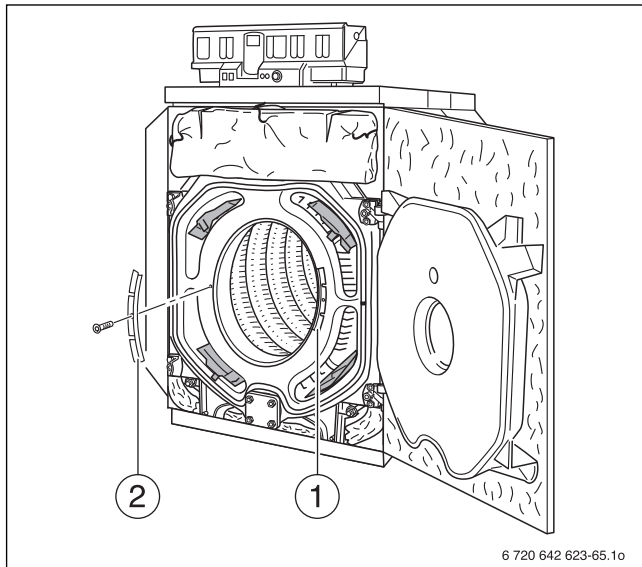

Fig. 68 Position of hot gas check plates
- ▶ Take the hexagon socket screws out of the hot gas check plates on the left and right and remove the hot gas check plates (→ Fig. 68, [1 and 2]).